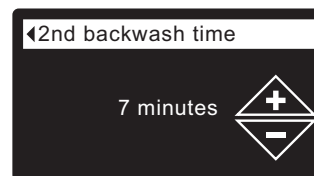

FIG. 77
- 8c. **Second backwash time:** Press the UP (▲) or DOWN (▼) buttons to change the second backwash time. Hold the button down to rapidly advance. The time can be set from 0 to 30 minutes (See Figure 77).